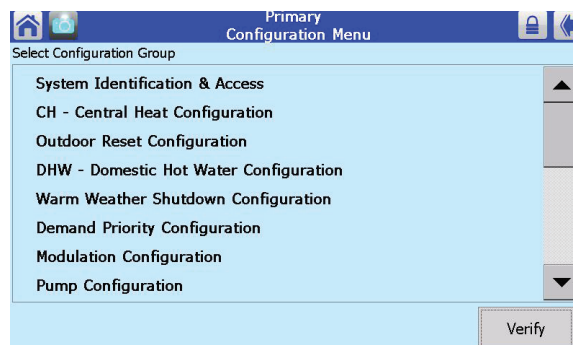

Fig. 70 – Configuration Screen
- Press the Configure button. Figure 70 shows the Configuration screen.